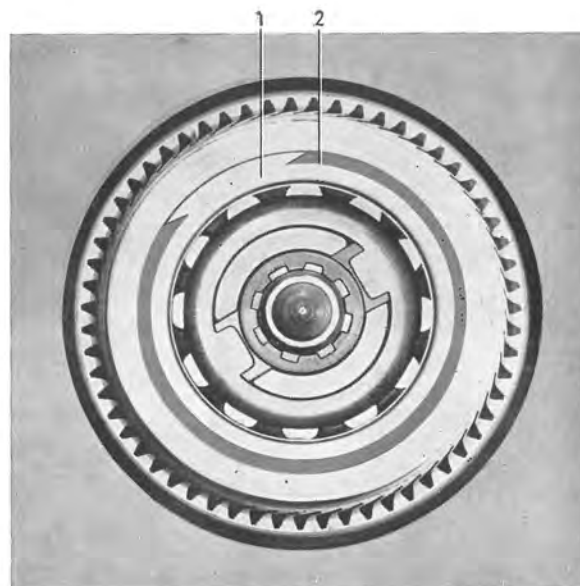

Fig. 4-56. Installing oil thrower
6. Fit the thrust washer and then the uni-directional clutch in position on the output shaft, see Fig. 4-55. Fit the oil thrower and install the circlip, see Fig. 4-56.